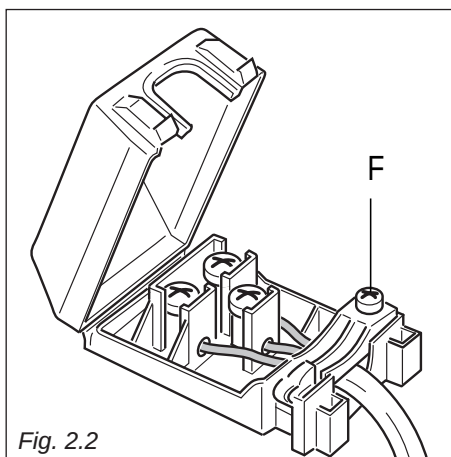

Fig. 2.2
- Open the cable gland by unscrewing screw "F" (fig. 2.2), unscrew the terminal screws and remove the cable.